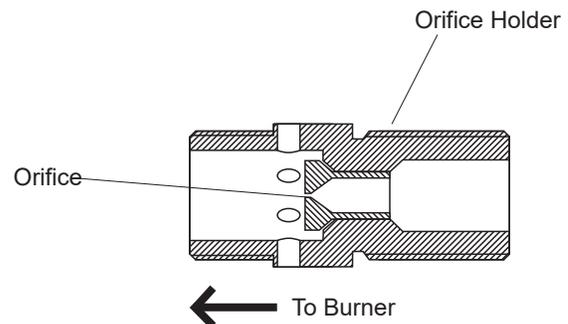

Figure 2
- A. Replace the Natural Gas Orifice Holder (*Part #17*) from Kit (Model **CVS-303** or **RVS304**) with the L.P. Orifice Holder(#19) This kit also contains (2) L.P. Orifices, Part 20 and Part 21. *Part 20*, the orifice with the small inner hole is used on the 18" Log Sets. *Part 21* (orifice with the larger hole) is used on 24" and 30" log sets. Install the correct orifice into the LP orifice holder (See **Figure 2**).